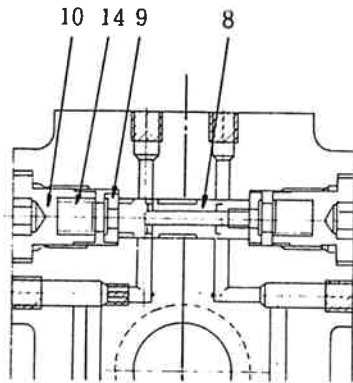

Fig.12 Spool Removal
- (4) Insert spool (8) into the body, and after assembling spring seat (9) and spring (14), assemble plug (10). (Refer to Fig.12)